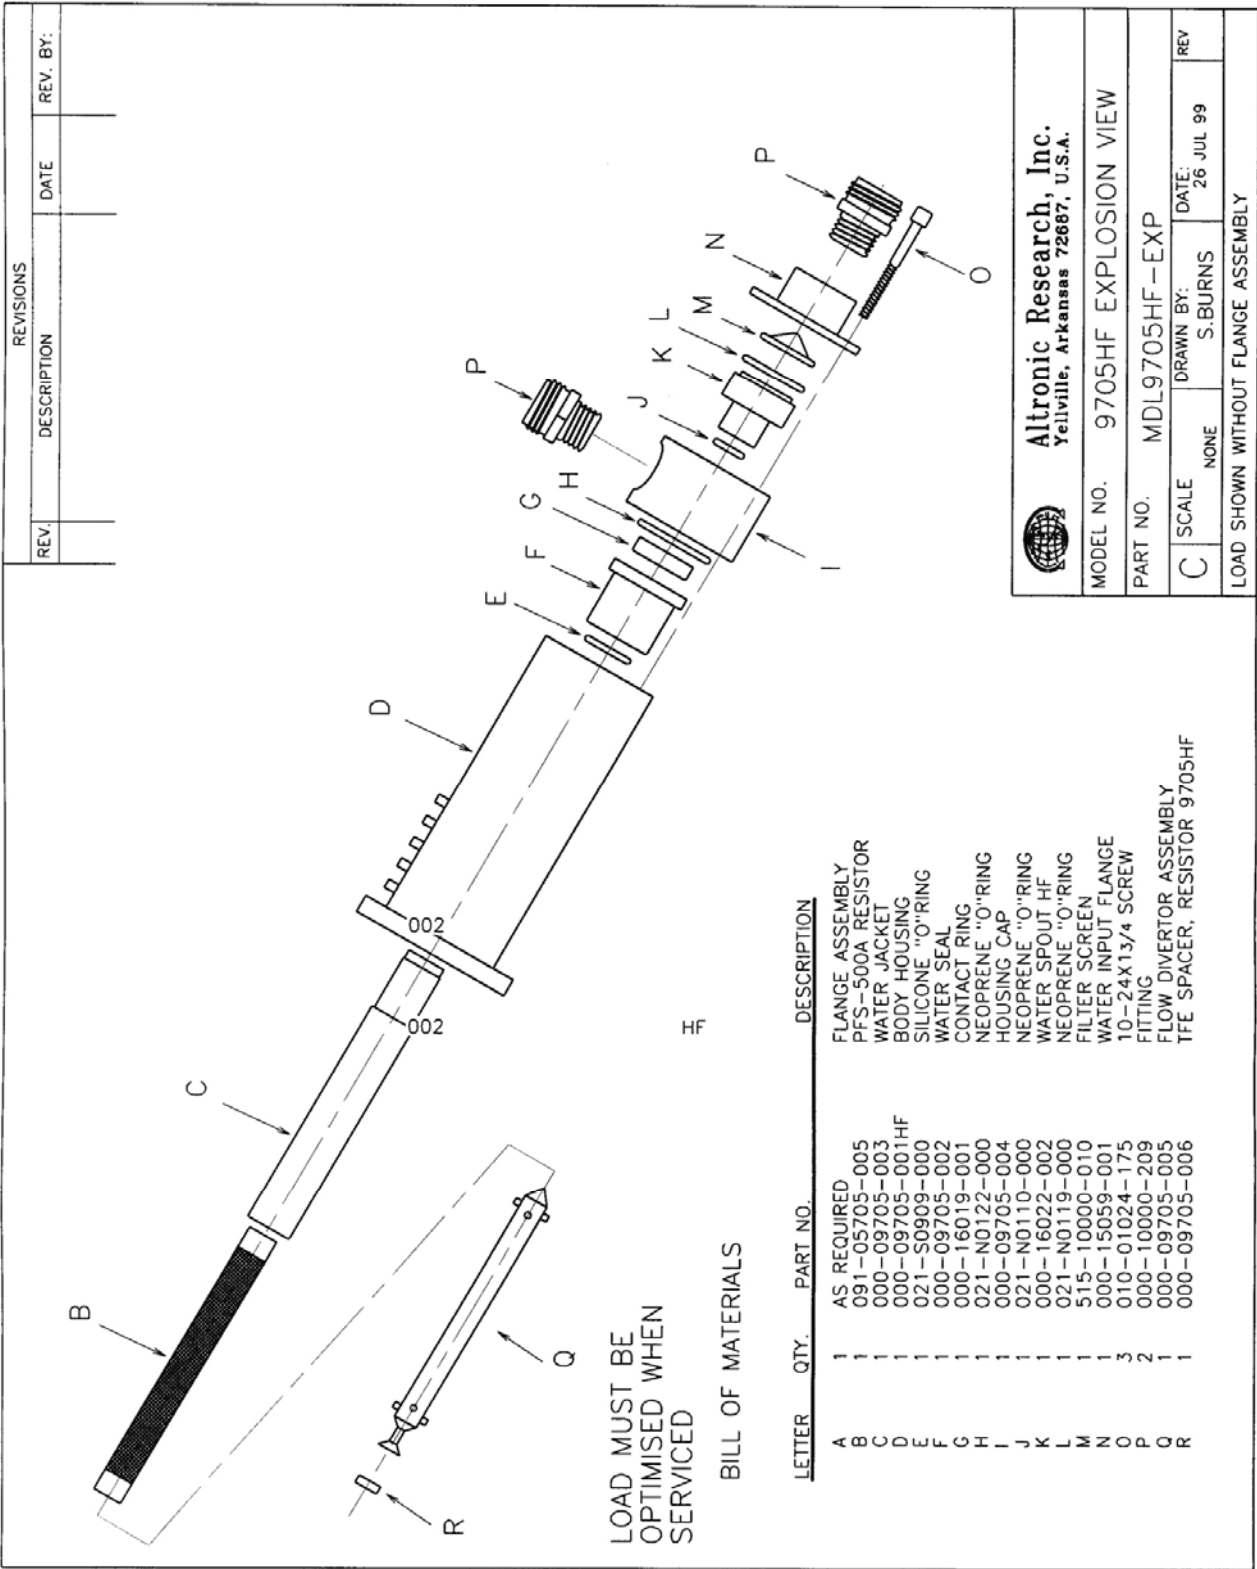
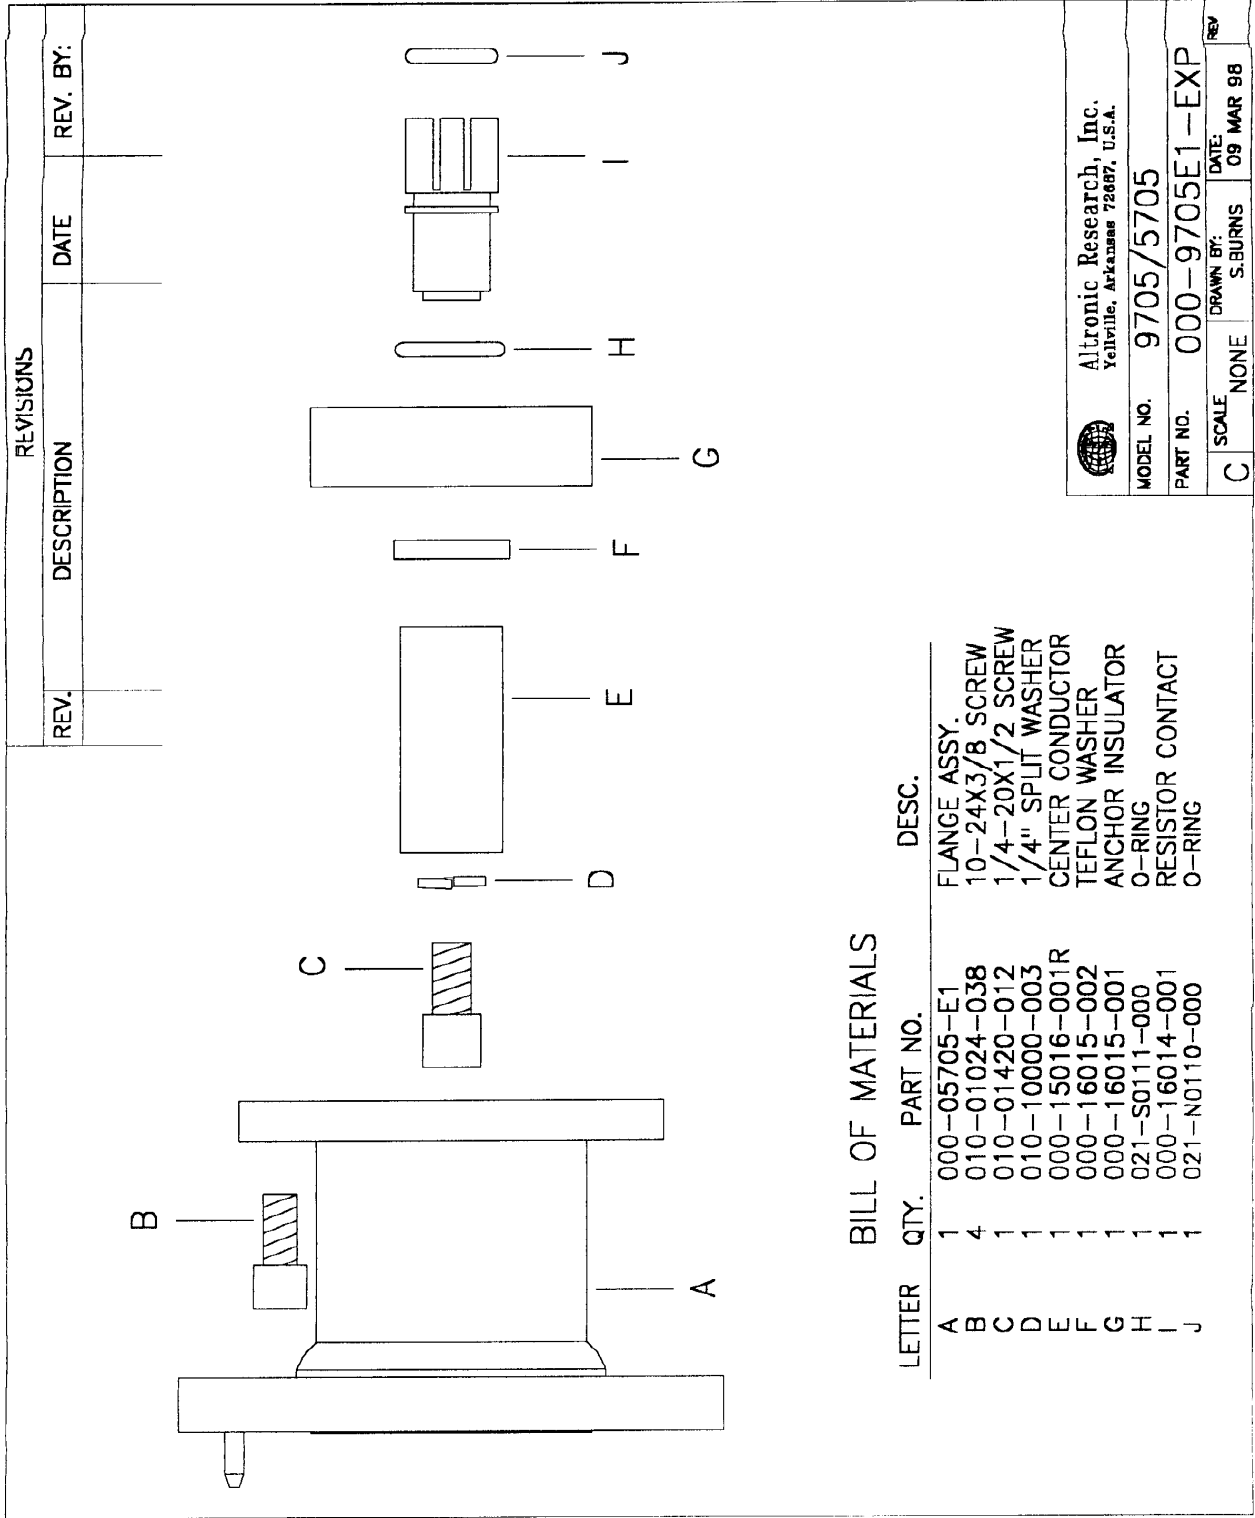

Fig. 14
Fig. 15
4. **Resistor Replacement** - (Refer to Fig. 14) To replace the resistor element, remove the three 10-24x1-3/4" cap screws (item O). Remove water input assembly (items M, N, and P). Inspect filter screen for damage, replace if eroded or torn. Remove housing cap assembly (items G, H, I, P, J, K and L). Inspect all O-rings for distortion or damage. Replace if pinched, cut, burned or no longer round in cross section. Inspect ring contact (item G) for signs of arcing or loss of silver in the area of contact with the resistor contact band.
- 5. Removal of RF Input** - (Refer to Figure 15) To remove the RF input line adaptor flange, remove four 10-24x 3/8" socket head screws (item B) that secure the line adaptor flange (item A) to the load body housing (item D, Fig. 14). The RF input assembly consisting of the center conductor, anchor insulator and front resistor contact (items C, D, E, F, G, H, I and J) will normally remain in the load body. Grasp the center conductor (item E) by hand and attempt to pull the input assembly out of the load body using slight side to side motion while pulling. If strong resistance is encountered, it may be necessary to chill the load to allow the anchor insulator to shrink away from the load housing. This can be done by placing the load in a freezer, or packing the load in ice for 20 to 30 minutes. Once the anchor insulator has shrunk away from the load housing, the RF input assembly should be easily removed. At this point of disassembly, all components of the load can be inspected or replaced as needed. Reassembly should be done in the reverse order of sequence.